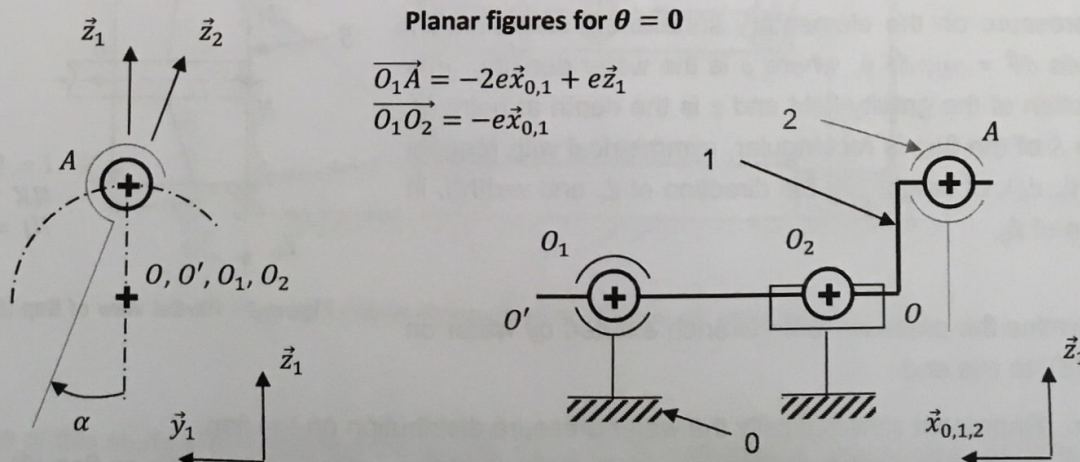

Figure 8 : Planar representations of plate (1)
Plate (1) is guided in rotation (Figure 8) by two angular-contact ball bearings which are modelled as a spherical joint of centre  $O_1$  and a linear-annular joint of axis  $(O_2, \vec{x}_0)$ . The position of plate (1) is defined by angle  $\theta = (\vec{z}_0, \vec{z}_1)$  and the orientation of rod (2) is defined by angle  $\alpha = (\vec{z}_1, \vec{z}_2)$ .